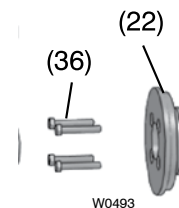

Figure 20
22. The suction flange support (22) has four pockets with raised ribs to hold the hex head bolts (36) in place after installed. Insert hex head bolts into the suction flange support (22) as shown in Figure 20.